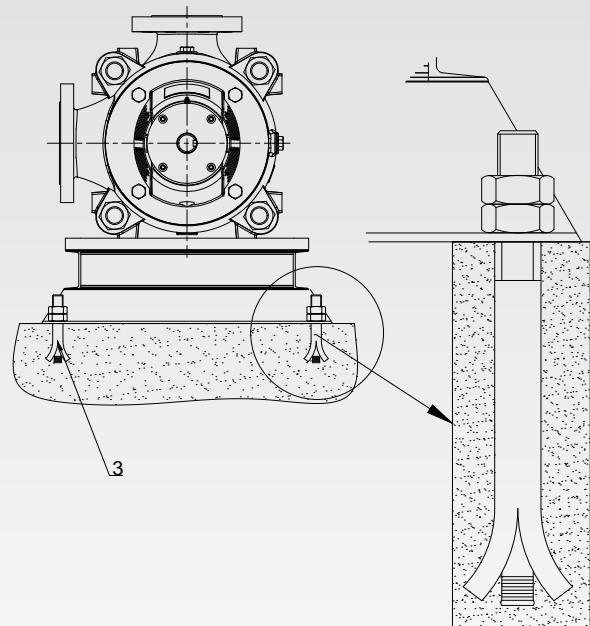

Figure 3
10. Tighten the base bolts evenly and securely. Figure 3